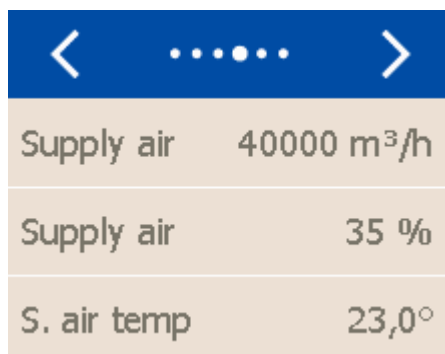

Fig. 111: Supply air
You can view the volume flow rate for a room on the 'Room data' screen (Fig. 111).
2. ▶ Use the < and > buttons to go to the screen in Fig. 111 .